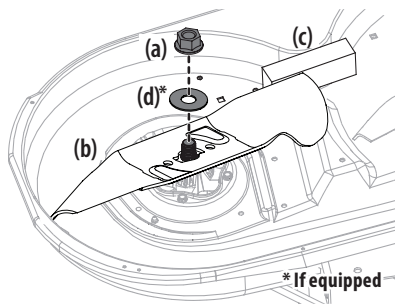

Figure 2
- Use a 15/16" wrench to hold the hex nut on top of the spindle assembly when loosening the hex nut (a) and washer (d)* securing the blade. A block of wood (c) may be placed between the deck housing and the cutting edge of the existing blade (b) to help in breaking loose the hex nut (a) and washer (d)*. See Figure 2.
- When reinstalling blades, be sure of the following (see Figure 2):